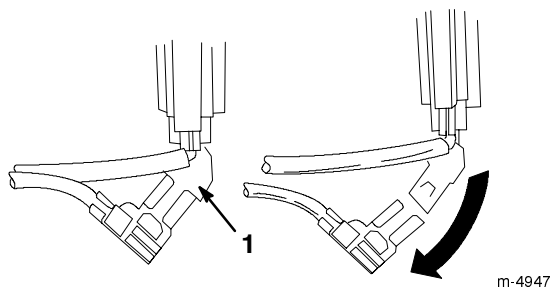

Figure 17
6. Disconnect the green ground wire clip under the throttle (Fig. 17).